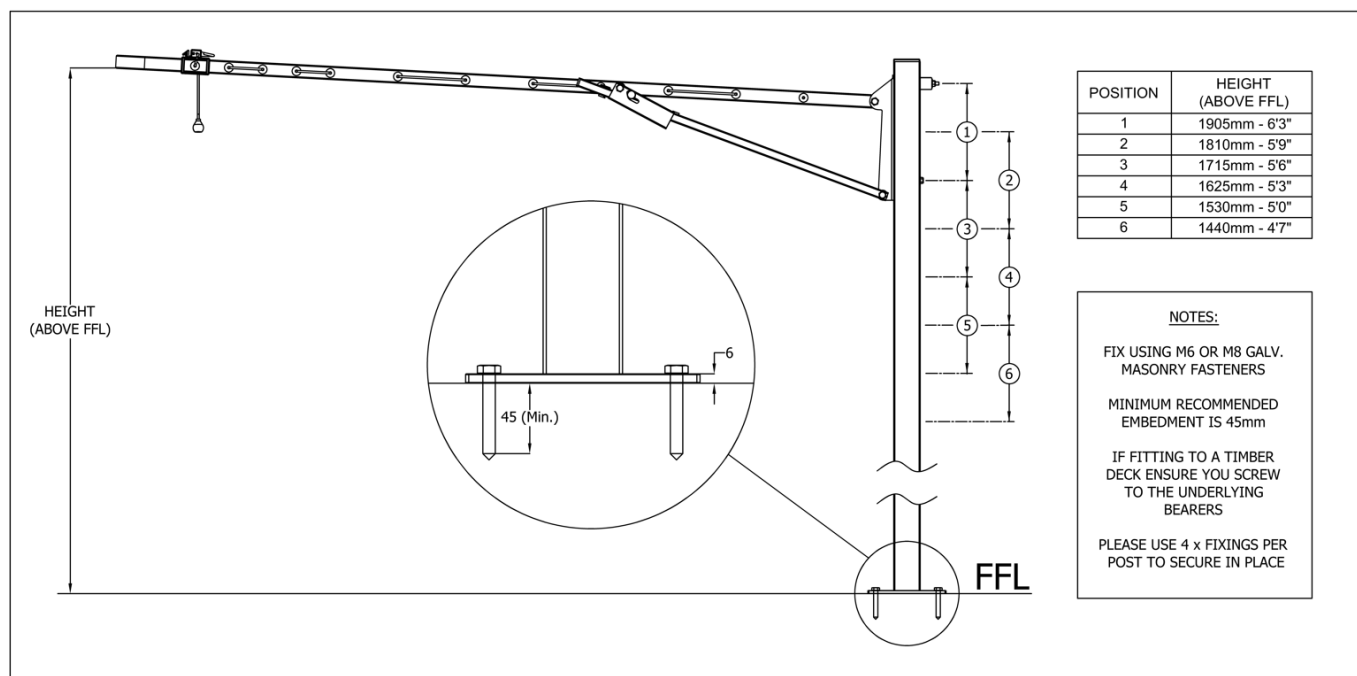

Fig. 9 Installation of Plated GMK Post.
- Install the plated GMK as per the below image (Fig 9) at 2,400mm centres.